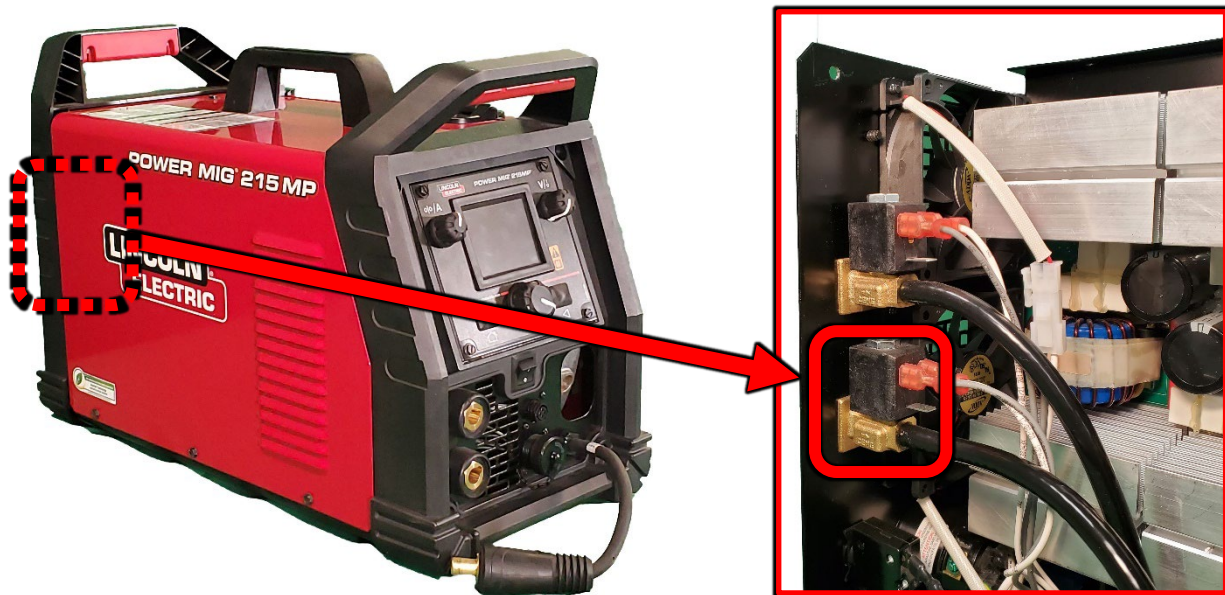

Figure F.1
1. For location of the TIG Solenoid refer to Figure F.1.